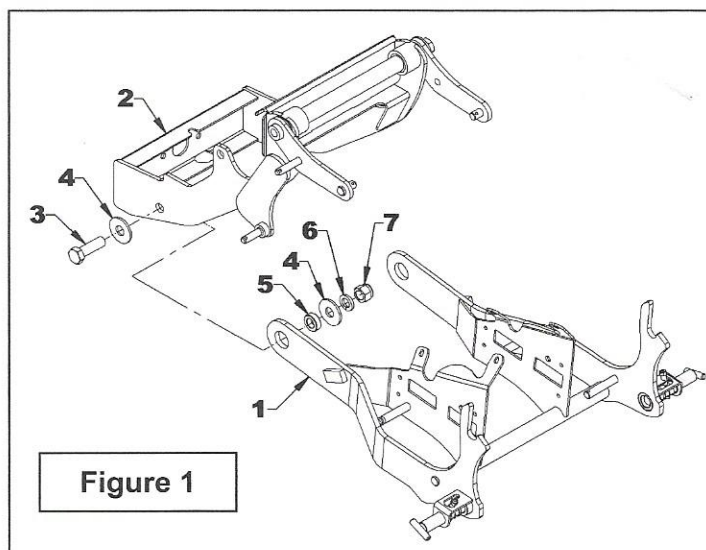

Figure 1
1. **Figure 1:** Apply grease to the outside of the pivot bushings (item 5) and in the holes of the hitch's rear arms (item 1).
2. **Figure 1:** Attach the front hitch (item 1) to the subframe (item 2) with two 5/8"NC x 2" lg. Bolts (item 3), four 5/8" flat washers (item 4), two pivot bushings (item 5), two lock washers (item 6) and two 5/8"NC nylon insert nuts (item 7).